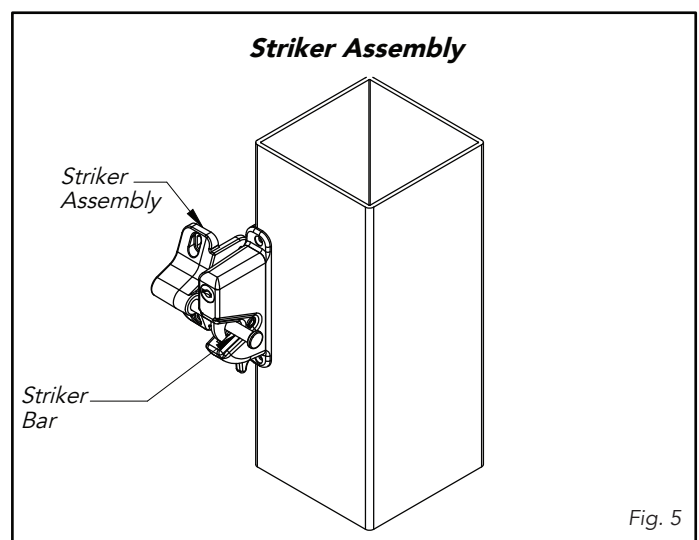

Fig. 5
- After installing the latch and button assembly, with the gate closed, position and attach the striker with the striker rod within the latch assembly behind the latch mechanism and mark the center points of the mounting holes, and drill appropriate pilot holes for mounting screws (Fig. 5). After installation, **TEST** the locking and unlocking mechanism of the latch from both sides.